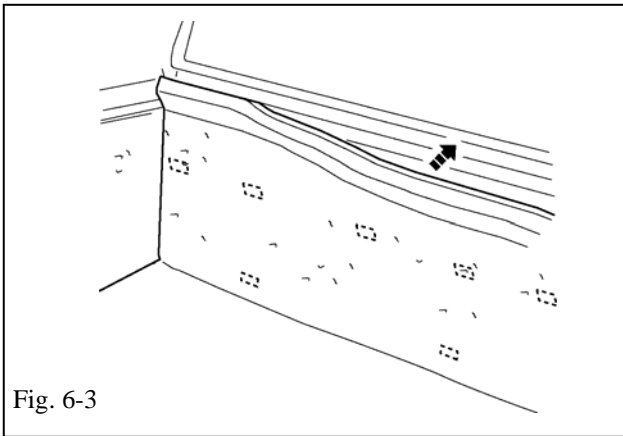

Fig. 6-3
- (i) Fit top edge of BedRug to top edge of body panel to determine best location. (Fig 6-3)